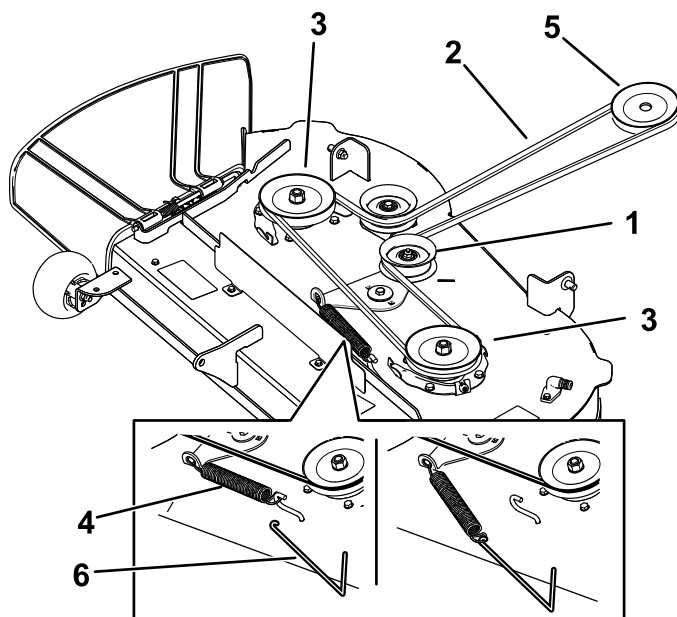

Figure 53
6. Using a spring-removal tool (Toro Part No. 92-5771), remove the idler spring from the deck hook to remove tension on the idler pulley, and roll the belt off the pulleys (Figure 53).
7. Route the new belt around the engine pulley and mower pulleys (Figure 53).
8. Using a spring-removal tool (Toro Part No. 92-5771), install the idler spring over the deck hook and place tension on the idler pulley and the mower belt (Figure 53).